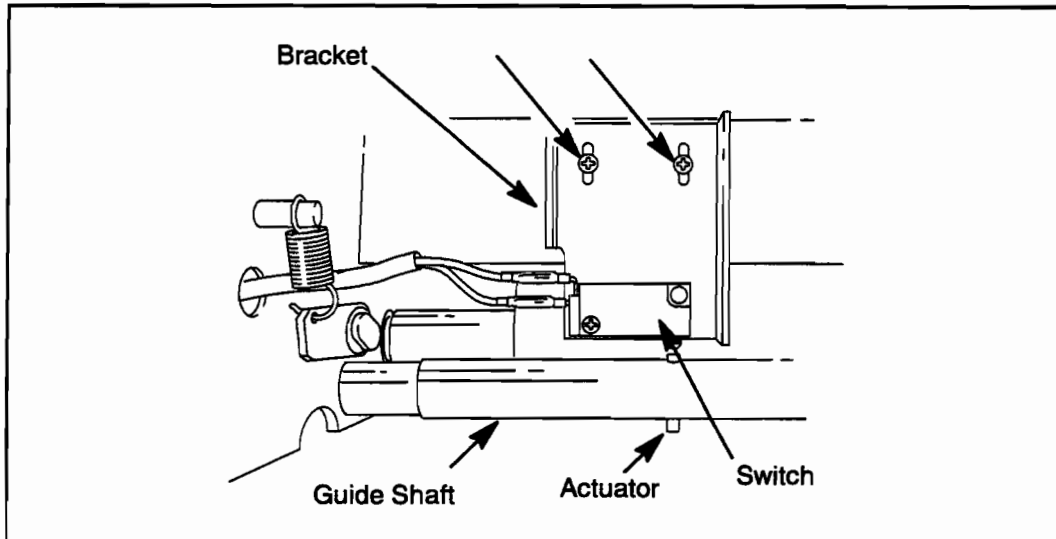

Figure 7-12. Out-of-Media Sensor Adjustment
9. Locate the switch mounting bracket to the left, looking from the back of the plotter. See Figure 7-12.